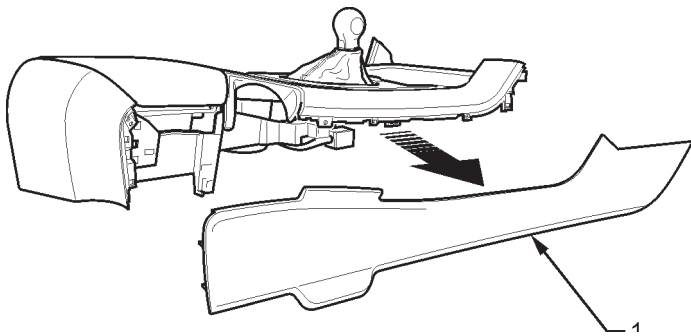

FIGURE 1
1. Remove Passenger side centre console side panels. Refer to figure 1.